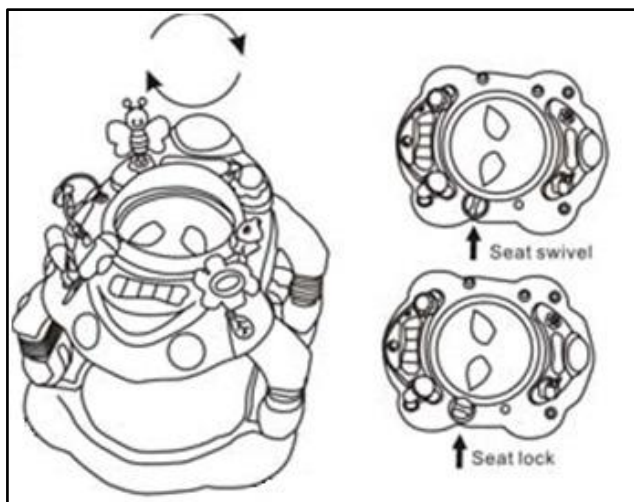

Figure 19
- Line the red knob with the indent in the white seat ring, as per **Figure 19**.